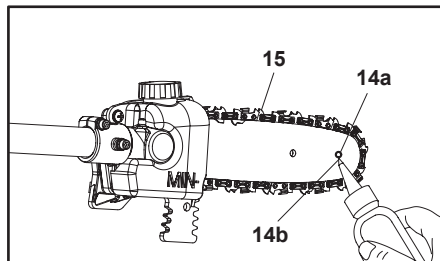

Fig. 61
**NOTE:** It is not necessary to remove the saw chain (15) to lubricate the sprocket wheel (14a). Lubrication can be done on the job.
2. Using a disposable lube gun, insert the needle nose into the lubrication hole (14b) (Fig. 61) and inject grease until it appears at the outside edge of the sprocket wheel (14a).